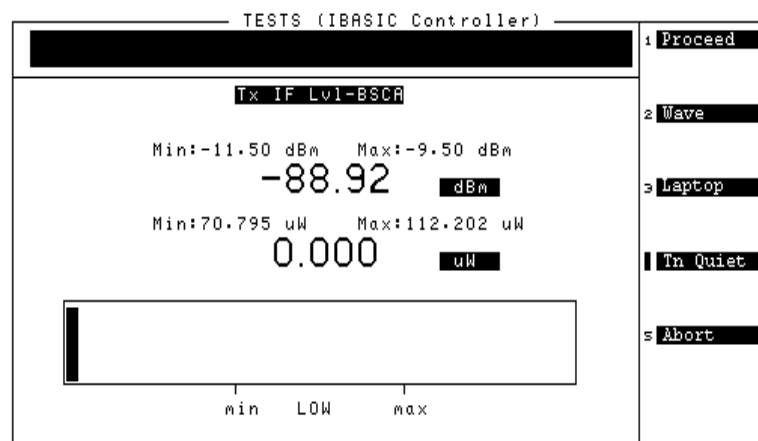
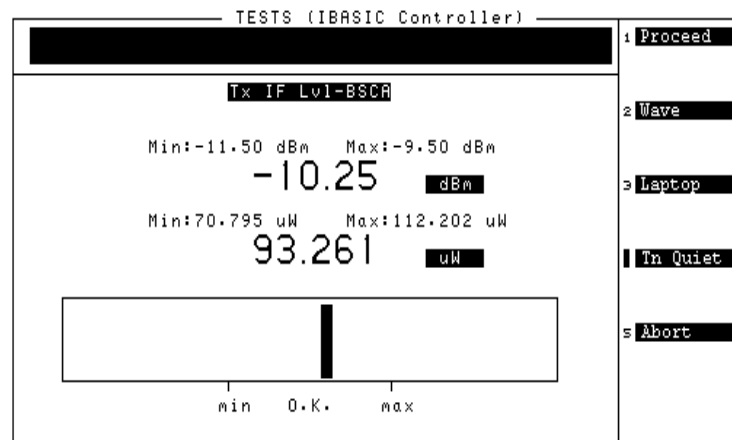

Figure 16 An Example Power Meter Screen (before adjusting BTS's power level)
Figure 18 An Example Power Meter Screen (after adjusting BTS's power level)
2. Most of tests use the Use Power Meter Screen When parameter on the Test Parameters/Specs menu. If you set this parameter to Always or Fail, the Test Set will first display a power meter bar and power levels as numeric values in units of both dBm and μ W, mW or W during testing on the Test Set's display (see figure 16 on page 74 or figure 18 on page 76).
The power meter screen allows you to *adjust* the BTS's power level until the measurements are within the lower (min) and upper (max) limits if the measurement's results fall outside the specified limits (see page 76 and figure 18 on page 76).
- After you have finished using the laptop emulator, press k5 (Return) to exit the laptop emulator mode. The power meter's bar should now be within the lower and upper limits if you adjusted the BTS's power level properly (see figure 18 on page 76). Repeat these steps if the power meter bar still falls outside specified limits.